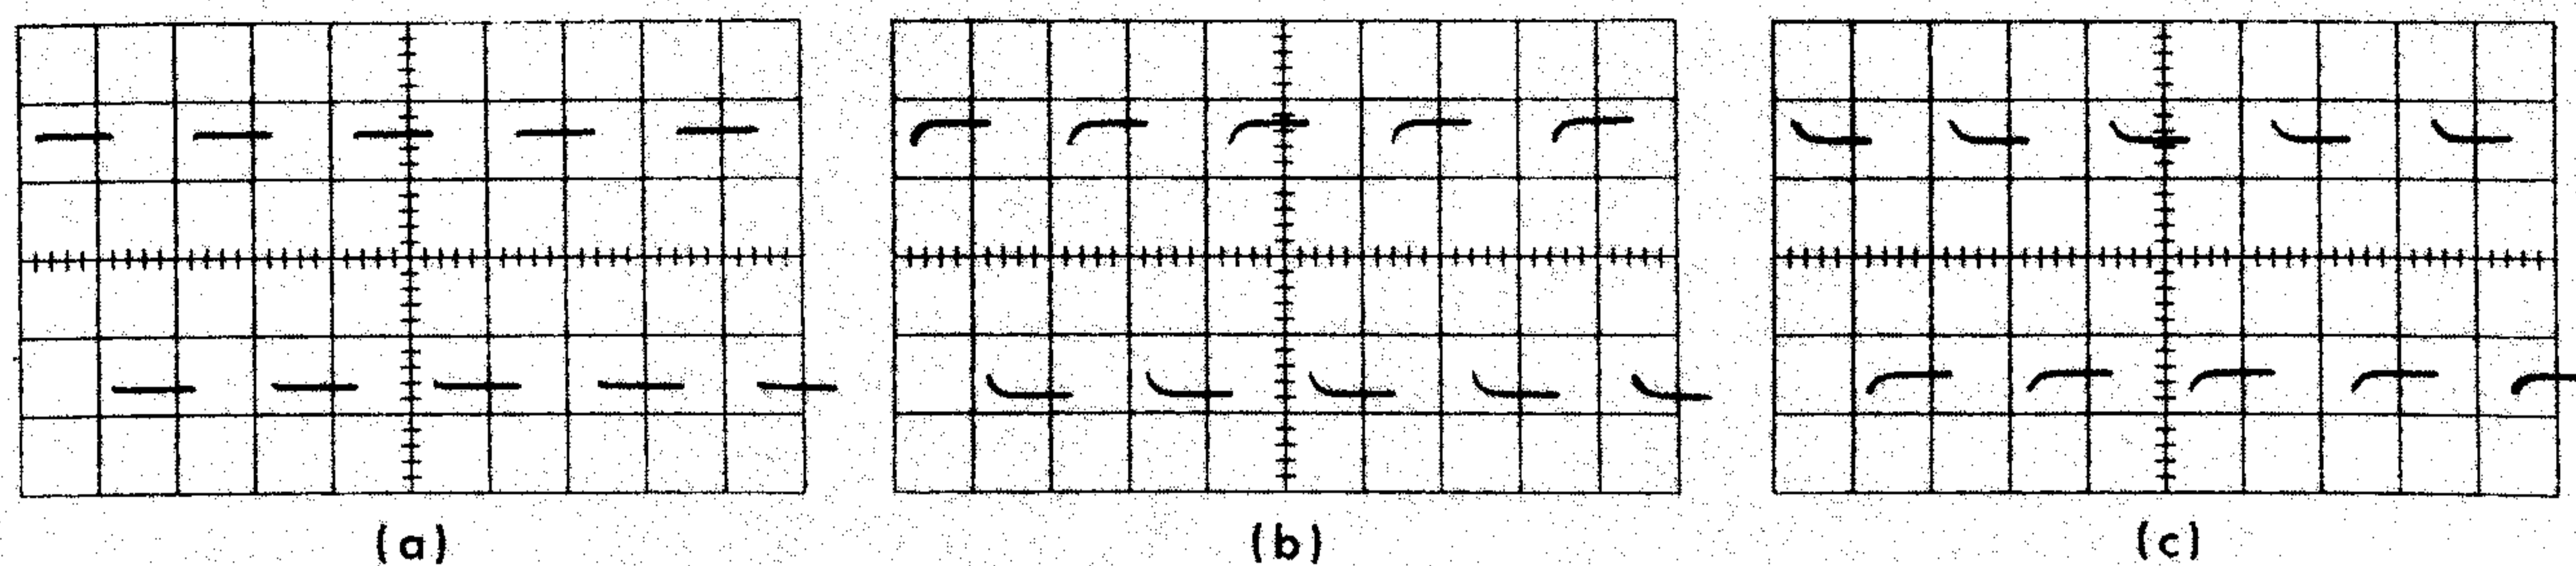

Fig. 3-3. Waveforms showing effect of HF COMP. adjustment. (a) Display with HF COMP. properly adjusted; (b) and (c) HF COMP. improperly adjusted.
7. Adjust the HF COMP. for the best level-topped square-wave appearance as displayed on the test oscilloscope (see Fig. 3-3).